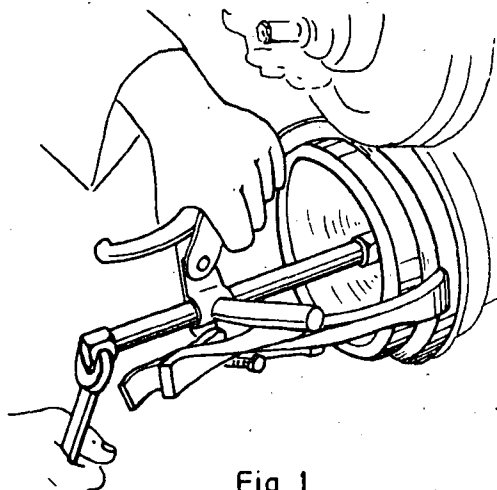

Fig. 1
- b) Position the extractor and remove the damper (fig. 1).